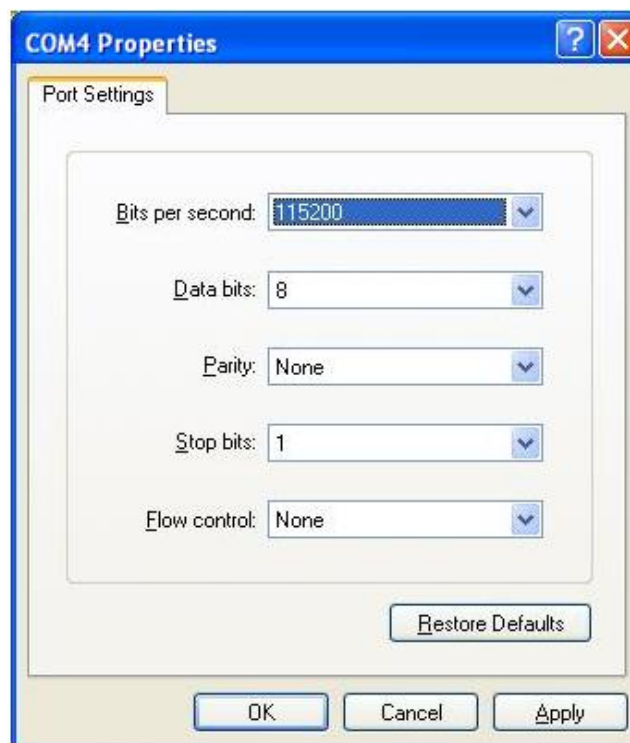

Figure 19 Setting Port Parameters
Step 5: Set port parameters (Bits per second: 115200, Data bits: 8, Parity: None, Stop bits: 1, and Flow control: None), as shown in Figure 19.